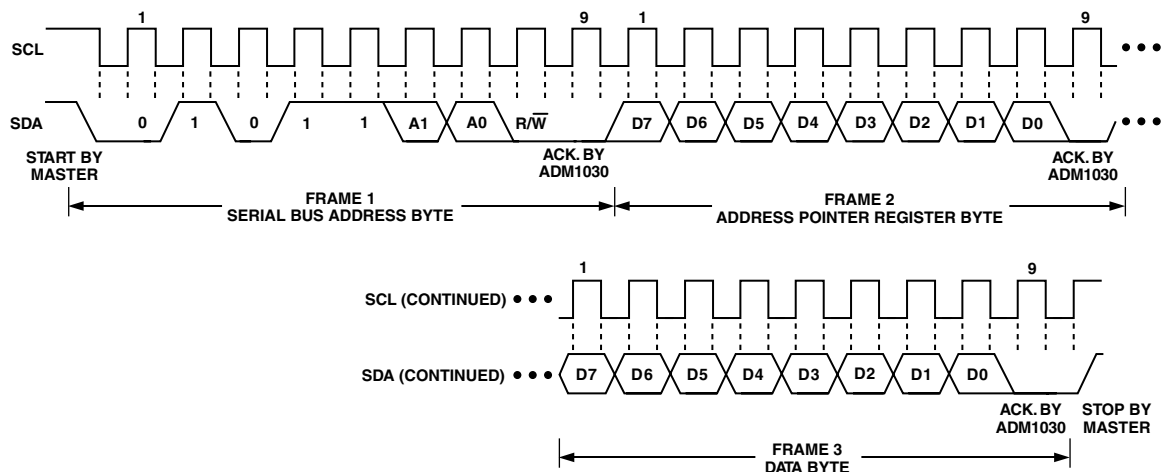

Figure 2a. Writing a Register Address to the Address Pointer Register, then Writing Data to the Selected Register
This is illustrated in Figure 2a. The device address is sent over the bus followed by  $R/\overline{W}$  set to 0. This is followed by two data bytes. The first data byte is the address of the internal data register to be written to, which is stored in the Address Pointer Register. The second data byte is the data to be written to the internal data register.
2. In Figures 2a to 2c, the serial bus address is shown as the default value 01011 (A1)(A0), where A1 and A0 are set by the three-state ADD pin.